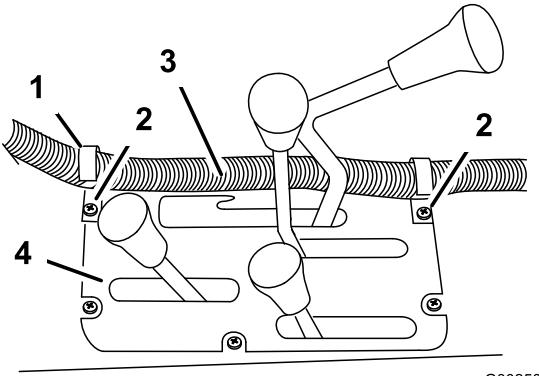
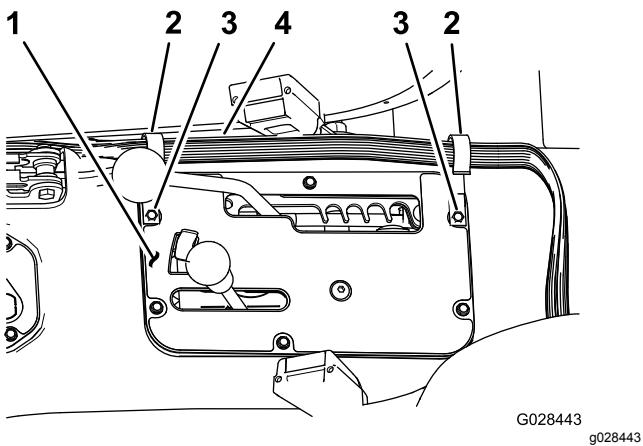

Figure 20
Figure 21
- Install 2 J-clips in the center console at the points located in Figure 20 or Figure 21 using the existing screws.